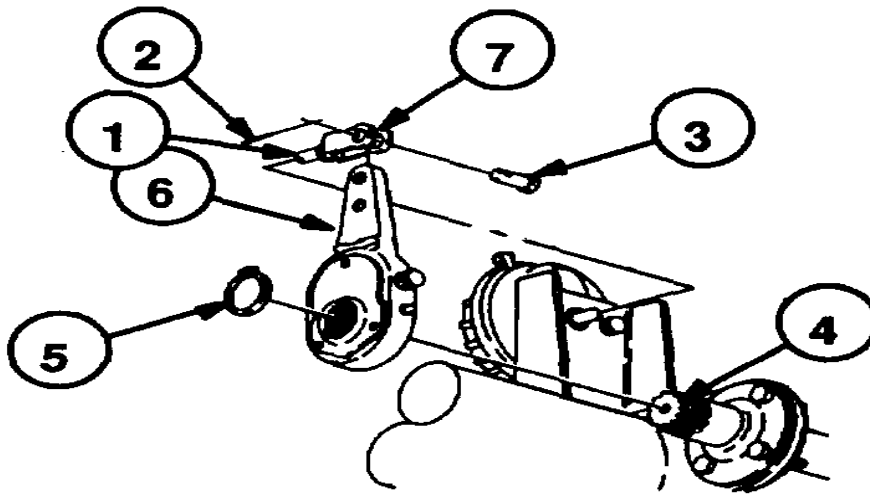

Figure 17.
- (1) Refer to Figure 17.
- (a) Loosen clevis jam nut (1).
- (b) Remove cotter pin (2), clevis pin (3), retainer ring (5), and slack adjuster (6) from camshaft (4). Clean and dispose of cotter pin, clevis pin, and slack adjuster as described in paragraph 8d. Clean and set aside retaining ring for reuse.
- (c) Remove the brake chamber clevis rod end (7) and dispose of in accordance with paragraph 8d.